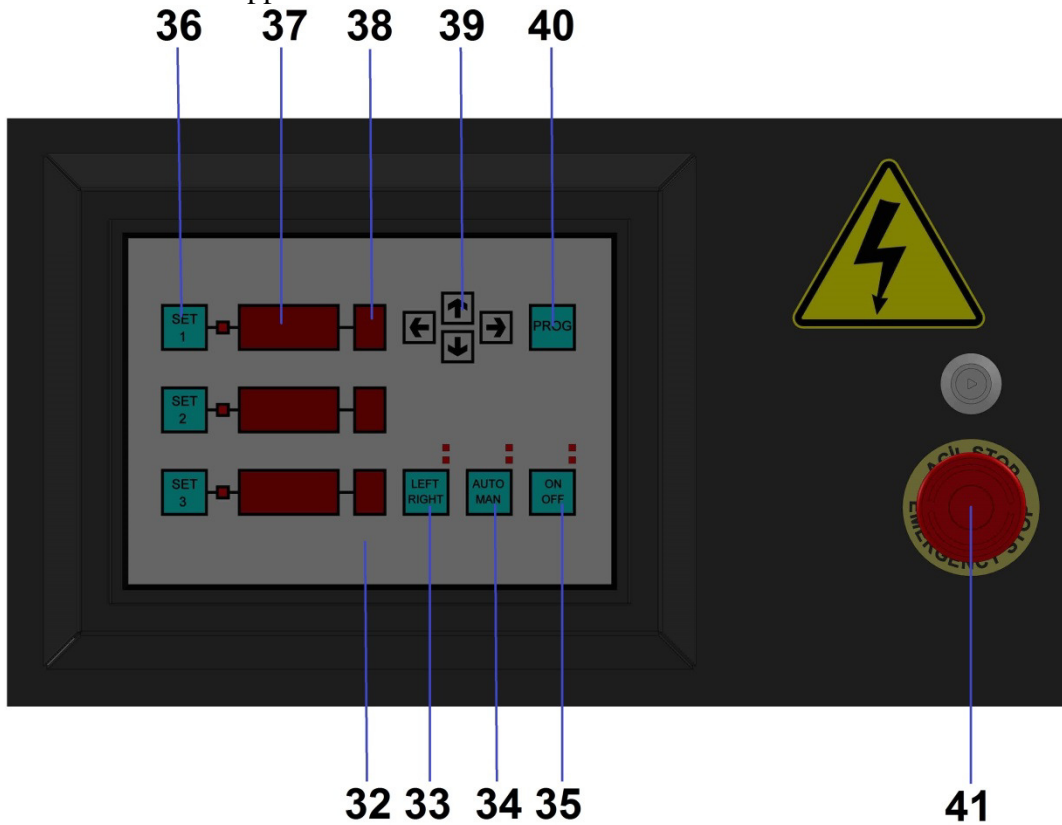

Figure 6 Digital control buttons
- After pressing on SET button on the control panel, input the required set row values by pressing on PROG button. The required angel value is entered to angle indicator (Figure: 6 No: 37) with up and down arrow keys (Figure: 6 No: 39). Select the piece indicator (Figure: 6 No: 38) by pressing right arrow key and enter the number of pieces. After entering the angle and piece values, select the next SET row with down arrow key. After entering the values save the settings by pressing PROG button. Maximum 9 value might be entered in piece indicator for each set row.
- After your settings are completed you can start serial bending by switching the MAN-AUTO button (Figure:6 No:34) to AUTO position.
- You can stop the machine in emergency cases by pressing the emergency stop (Figure: 6 No: 41) button on the control panel. When you restart, the machine will return to the beginning of the operation where it had stopped.